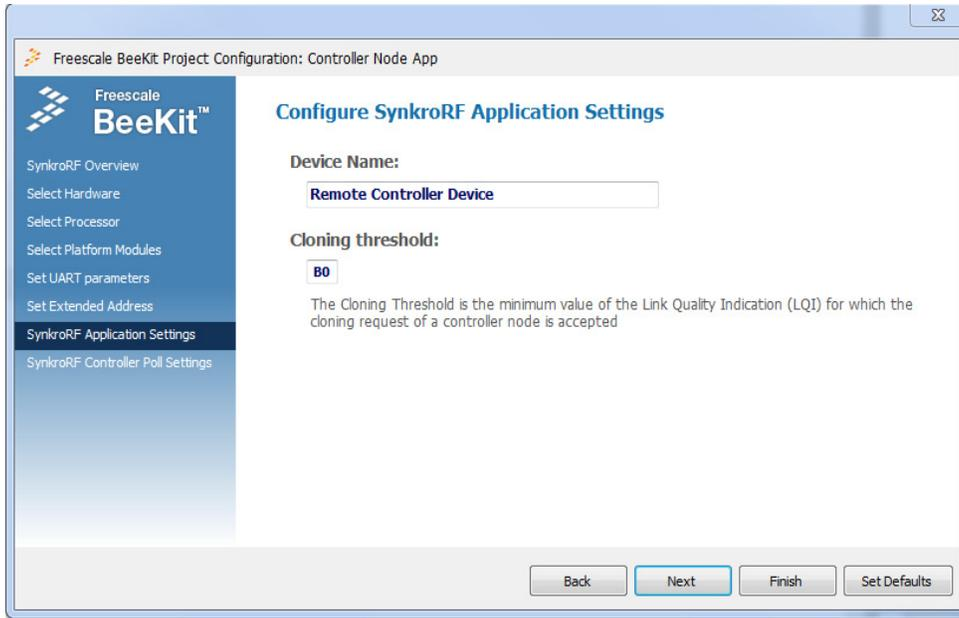

Figure 2-9. SynkroRF Application Settings page
9. Click Next. The SynkroRF Application Settings page appears as shown in Figure 2-9.